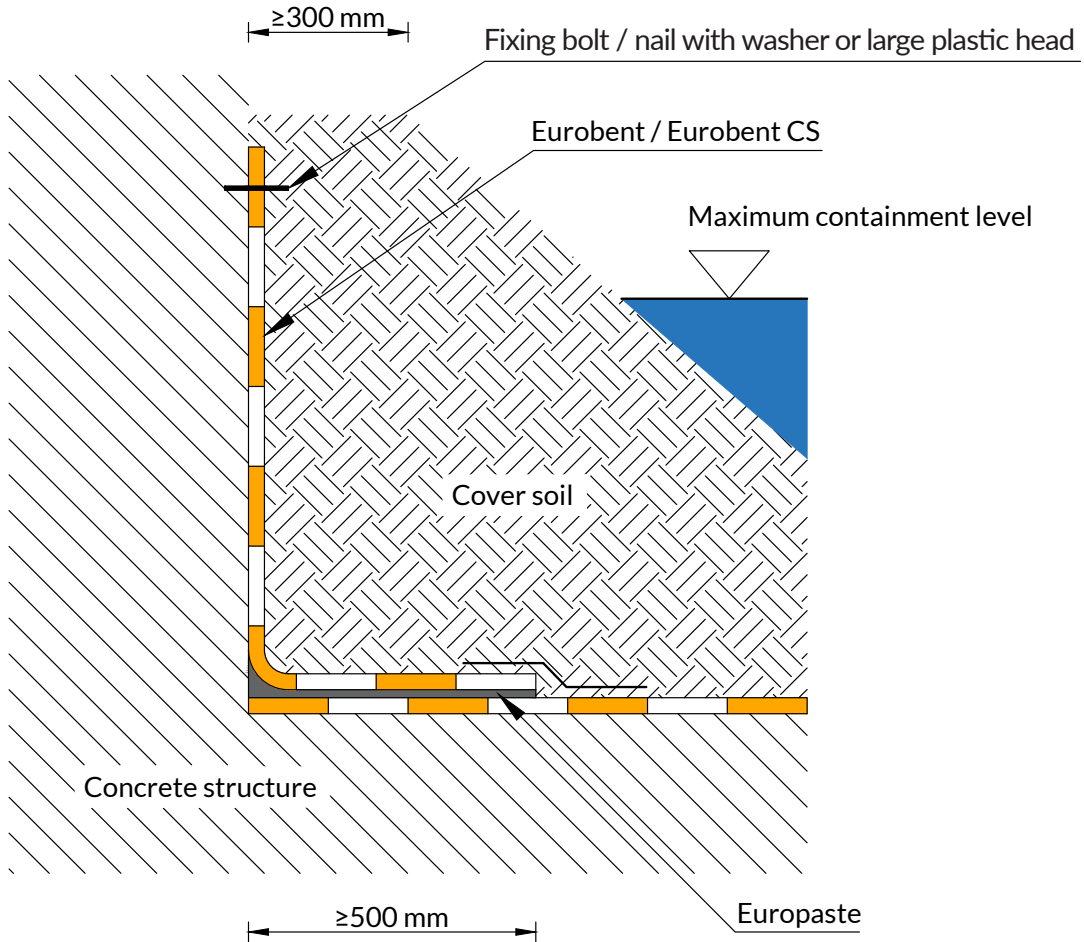
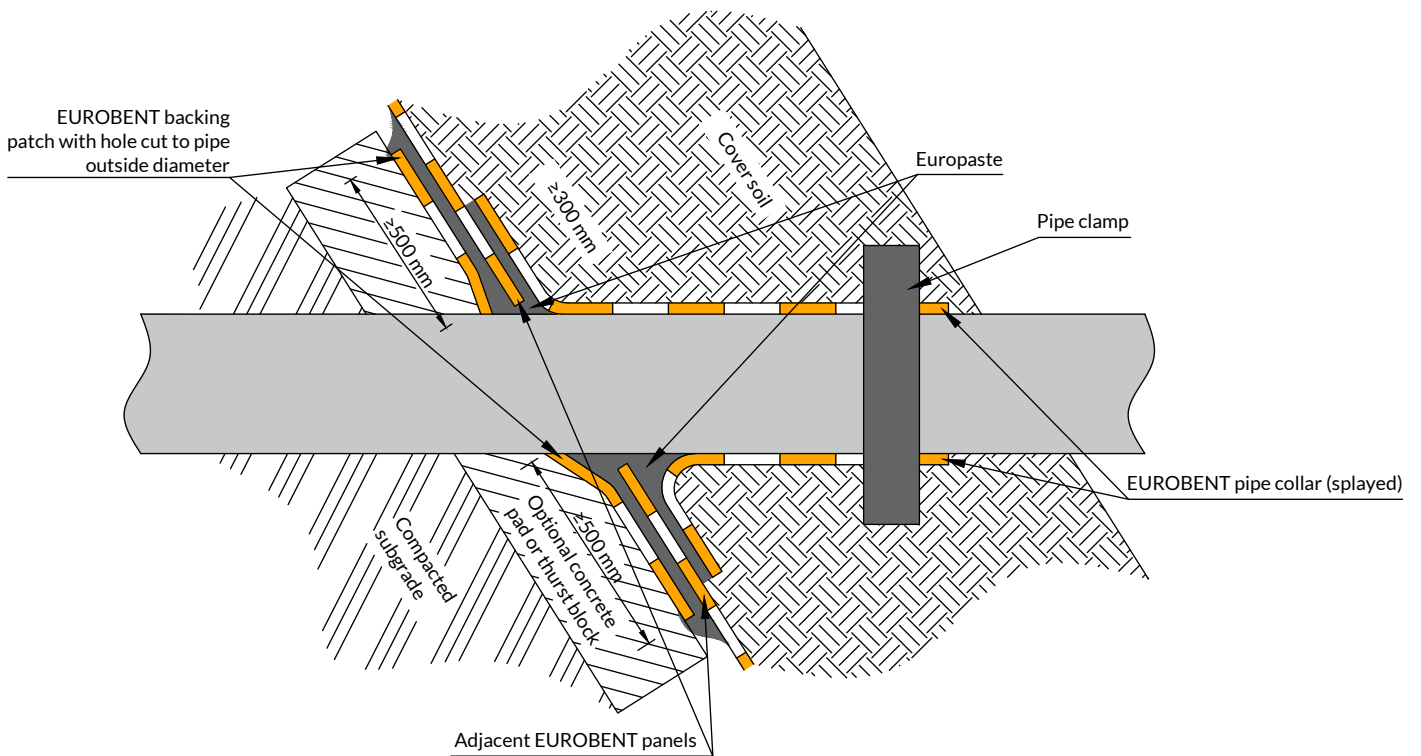

Fig 3.
Fig 5.
- Fixing and sealing at concrete structures can be done as shown in Figures 3 and 4. These typical connections are suitable where the structure must be sealed to heights above and below the maximum water containment level. To ensure water tightness, temporarily fix the EUROBENT GCL panel vertically to the structure (as shown in the drawing) to allow backfilling; Penetrations, such as pipe channels, are typically made as shown in Figure 5.